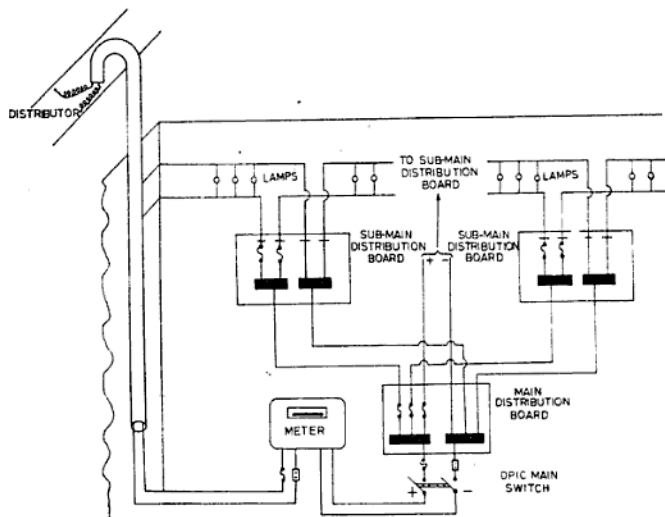

Fig. 10.2 Distribution system
**Distribution System** This system is most commonly used nowadays. In this system the main distribution circuit is brought to one or more distribution boxes from where it is further distributed to different branch circuits as shown in Fig. 10.2. This system requires no joints, but each circuit is tapped off from the distribution box without interfering with the other circuit. Moreover, each circuit is independently tested for finding the faults.